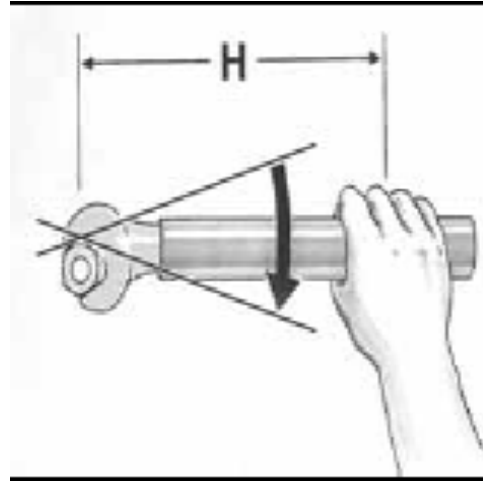

Figure 4
- ¾ turn for pipe diameters of less than 6mm. No extension may be used (Figure 4).